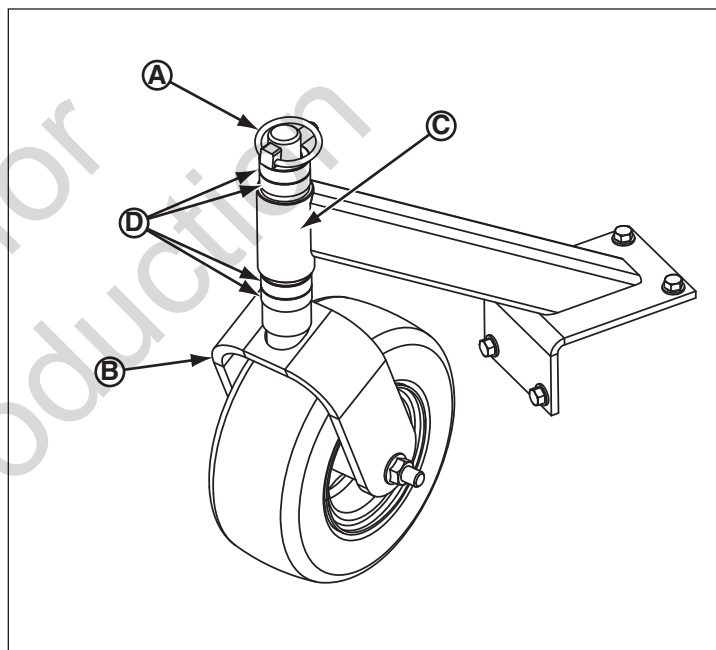

Figure 6. Adjusting the Number of Spacers Below the Caster Arm
4. Remove the quick pin (**A, Figure 6**) from the caster (**B**) and remove the caster from the caster arm (**C**).